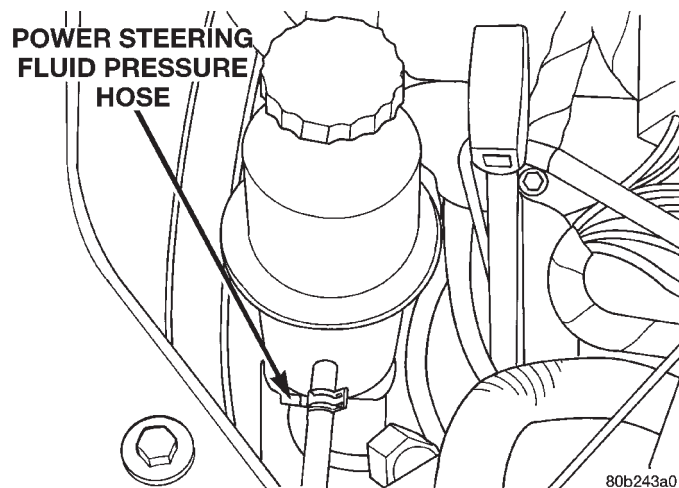
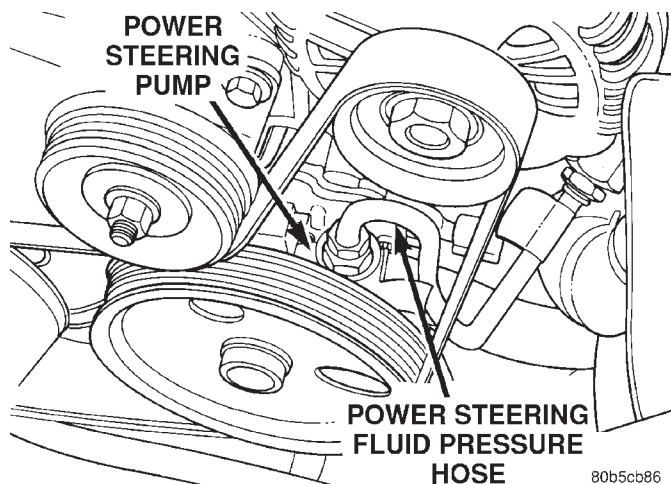

Fig. 6 Pressure Hose Connection To Power Steering Pump (2.7L Engine)
Fig. 7 Pressure Hose Connection To Power Steering Pump (3.2L/3.5L Engine)
- (3) Disconnect the power steering fluid pressure hose from the power steering pump (Fig. 6) (Fig. 7).